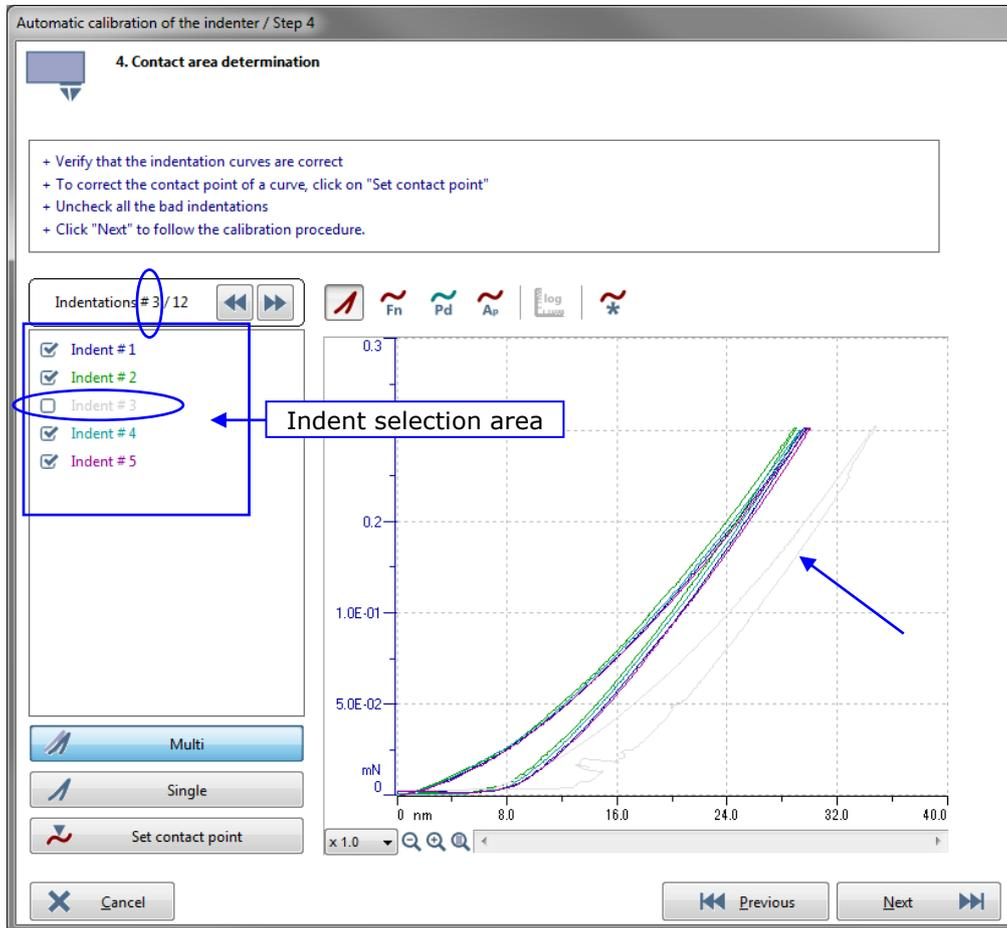

Fig.40 Bad indent #3 is removed
- By default *Indentation curve*  icon is selected to show **F** vs. **h** curves (Fig.40).
E.g. in Fig.40 for the selected load: *Indentations # 3/12*, the *Indent # 3* is totally shifted (even with a correct contact point) and has a bad shape; uncheck each bad *Indent #* *Indent # 3* box to exclude them *Indent # 3* → On the graph area it becomes gray → not relevant (excluded for the A_p determination). *Indent # 4*
When all bad indents have been removed, click <Next> button in Fig.40.